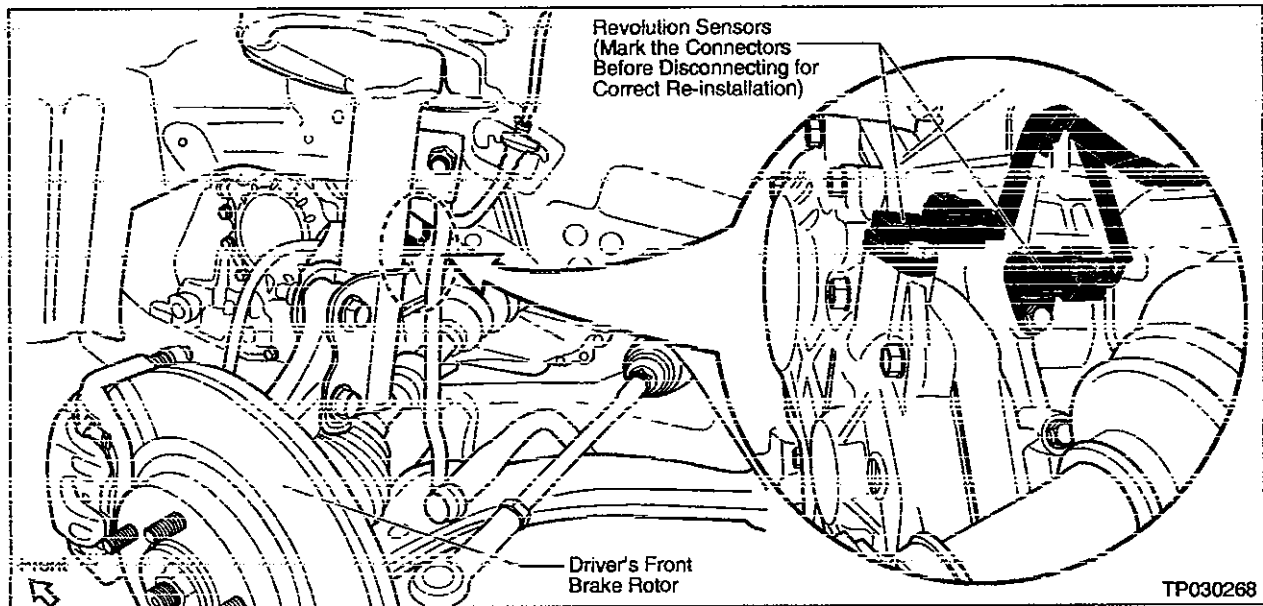

Figure H9
- Make sure you mark the A/T Revolution Sensor Wire Harness Connectors for proper re-installation (see Figure H9). If these connectors are "mixed up", improper transmission shifting can occur.